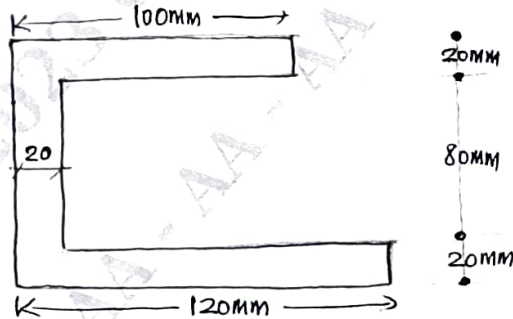

Fig. Q2 (b)
b. Determine the moment of inertia of channel section shown about its horizontal centroidal axis. (Refer Fig. Q2 (b)). (10 Marks)